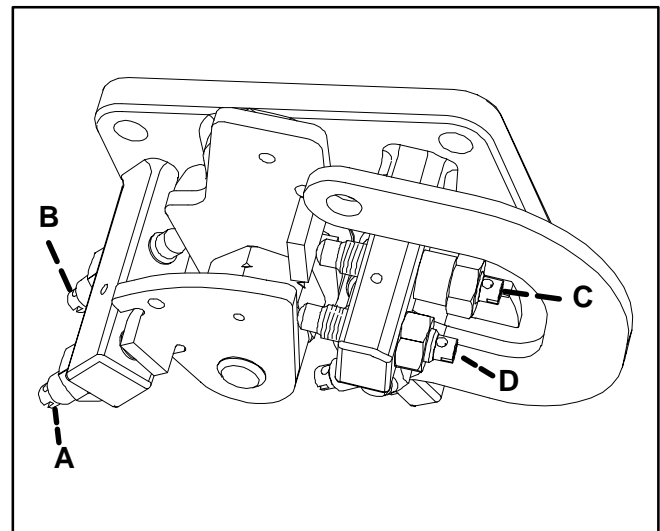

FIGURE 23. FREQUENCY ADJUSTMENT (EXCEPT MDKAL SPEC A)
2. Back off screw **A** (Figure 23) to free the front (60 Hz) lever and prevent overspeed shut-down, snug screw **D** and set the locknuts.
1. First adjust genset frequency to 50 Hz if the adjustment seal on screw **B** (Figure 23) is broken. Snug screw **C** if necessary.